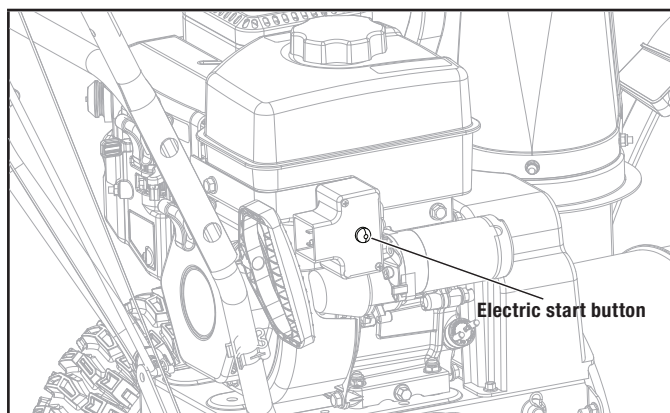

Figure 13D
7. Alternatively for electric start, plug in the supplied electrical cord into the starter. Press the electric start button and make sure that the mains supply voltage is 120 V~ 60 Hz (Fig. 13D).